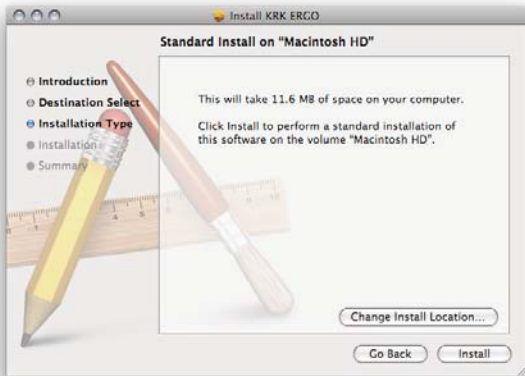

Figure 3.23
4. Click **Install**. (Figure 3.23)